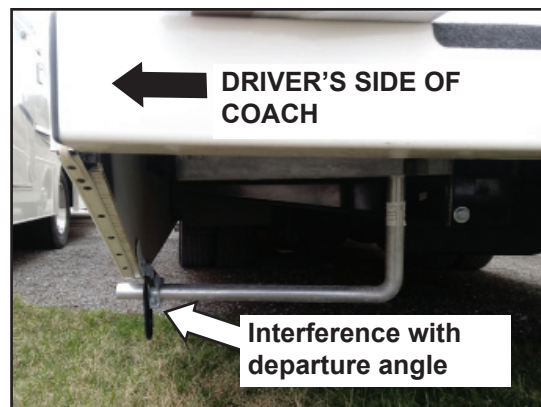

Figure 2 - Repair Needed
- Before beginning repairs, take several photos clearly showing the generator exhaust misrouted out the side of the motorhome. See Figure 2 (Page 2) for an exemplar photo.